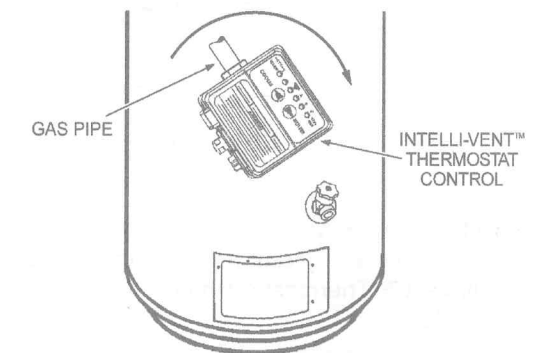

FIGURE 10.
13. Using your hand, grasp the straight pipe attached to the Intelli-vent™ Thermostat Control, (184960 Series) and rotate it clockwise  until the control is tight and aligned correctly, see Figure 10.